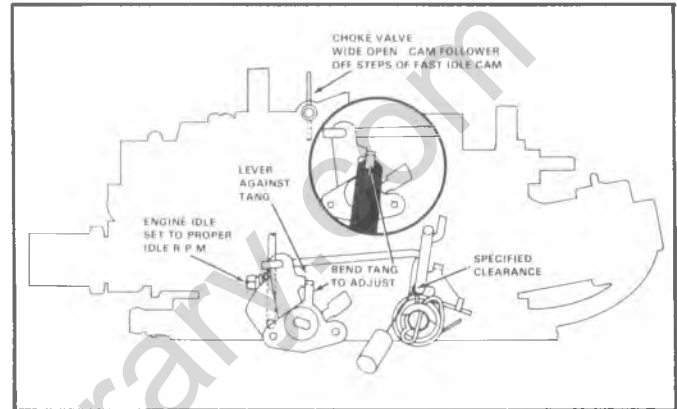

Fig. 54—Secondary Closing Adjustment
**SECONDARY CLOSING ADJUSTMENT (Fig. 54)**